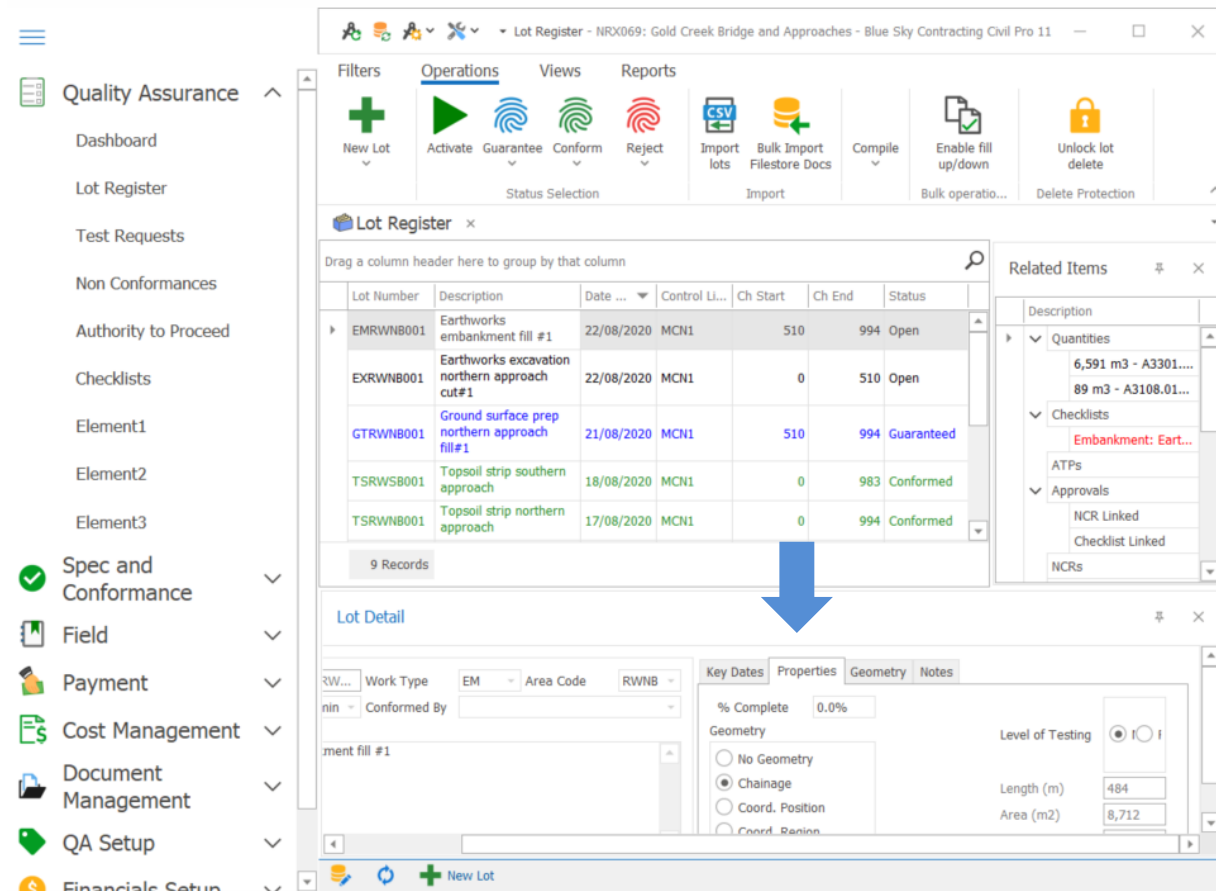

Figure 111 % Complete in the Properties Tab of the Lot Details Screen
1. (slow for multiple lots) Open the lot detail view (double click the lot) and type in the % complete in the Properties tab (Figure 111). Click through each lot updating the % complete.